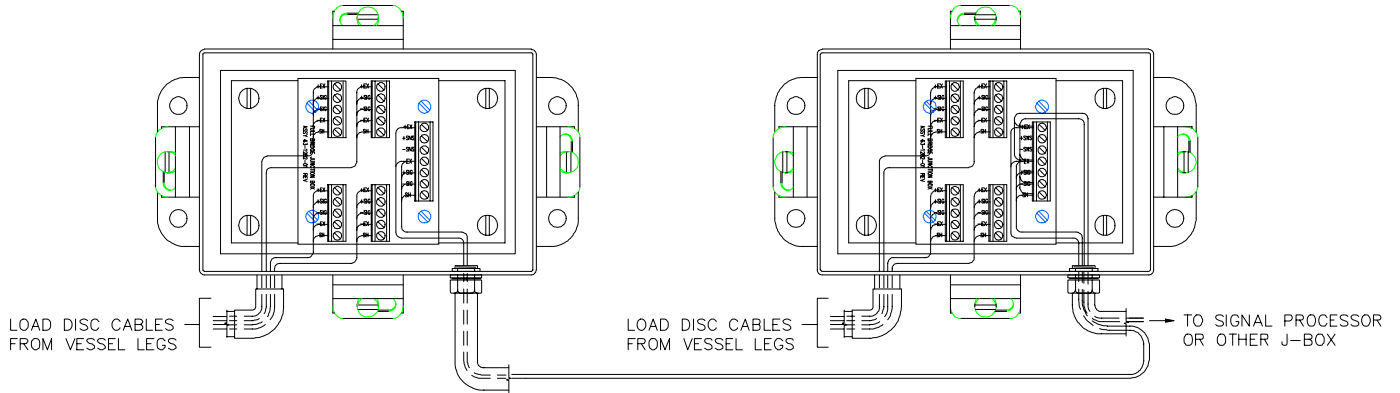

Figure 3-8: Wiring Stainless Steel Junction Boxes Together and to Signal Processor
2. See Figure 3-8. Route the 4-conductor cable through the fitting into the junction box farthest from the signal processor. Connect wires from the cable to the TB1 terminal in the junction box: **red or brown wire to +EX, white wire to +SIG, and black wire to -EX, and blue or yellow wire to -SIG.**